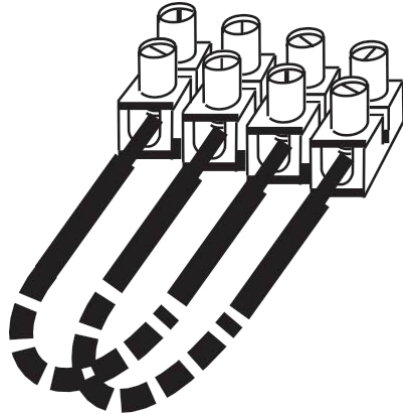

Fig. 11: Temporary Loop Connection
At this stage, do not wire in any isolator bases, or other modules, or fit the detectors. This is to avoid potential damage caused by the high voltage insulation checks. Use strip connectors (Fig. 11) for any temporary connections, to preserve continuity.
- 3 Connect the loop wiring tails to a strip type connector block, with screw terminals, as shown in Fig. 11. Leave the wiring loose within the panel.
- 4 Remove the temporary connections that you had made to the connector block. Refer to Fig. 11.